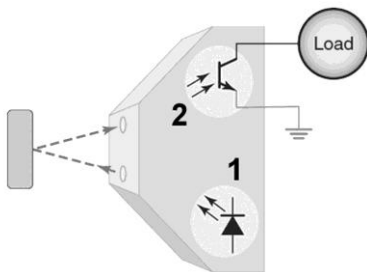

Figure 6-17 Sensor for question 28.
28. For the photoelectric sensor shown in Figure 6-17, part 1 is the ____ and part 2 is the ____ 28. _____